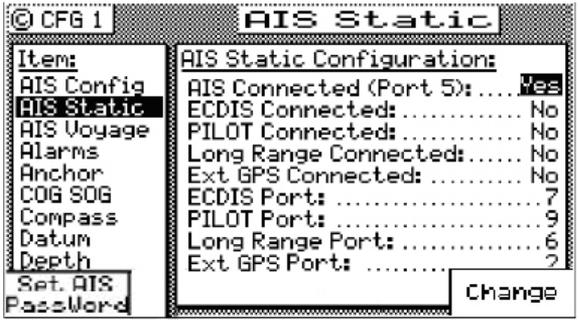

Fig 1.08 AIS Static Configuration Screen
9. Press the *E* key to exit. Your screen should look like Fig 1.08.